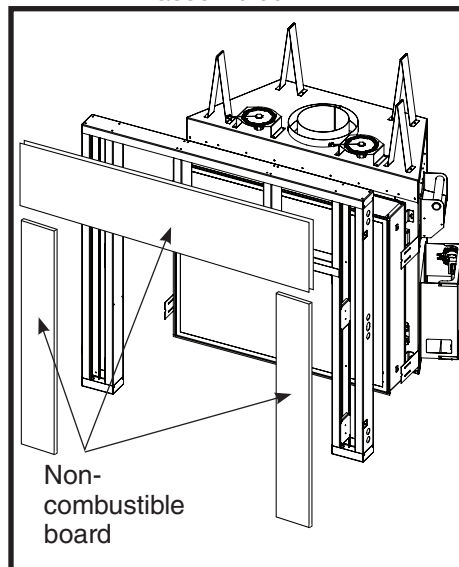
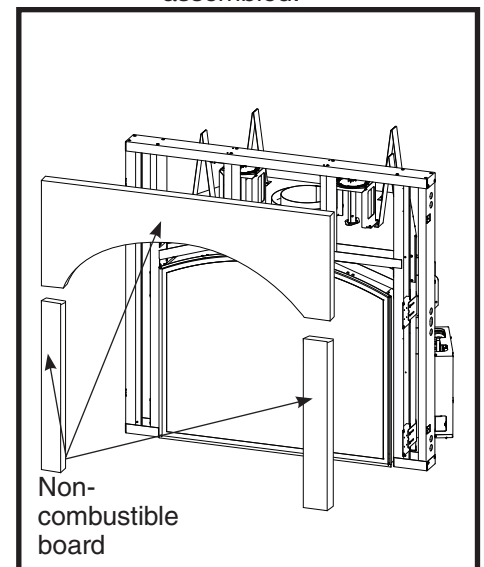

Figure 21: TC 36D regular frame with non-combustible board.
Figure 22: TC 36D arched frame with non-combustible board.
6. Install Non-combustible Board Use drywall screws to install the non-combustible board (Figure 21) or (Figure 22).